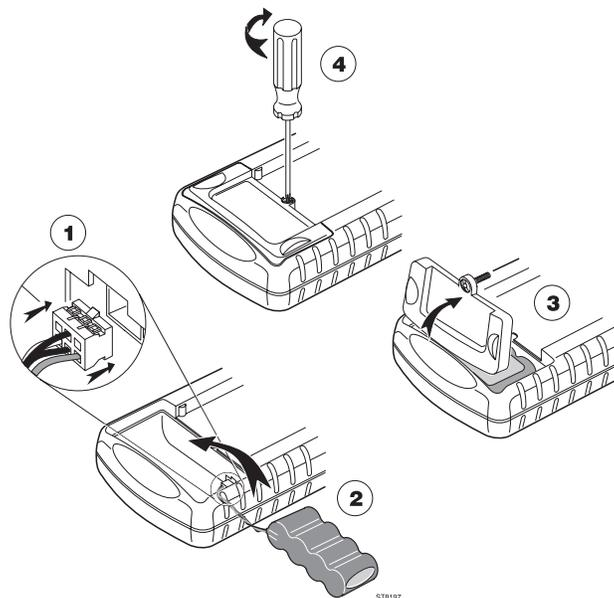

Figure 5-5. Battery pack installation
11. Install the battery pack, and the battery door, see figure 5-5.